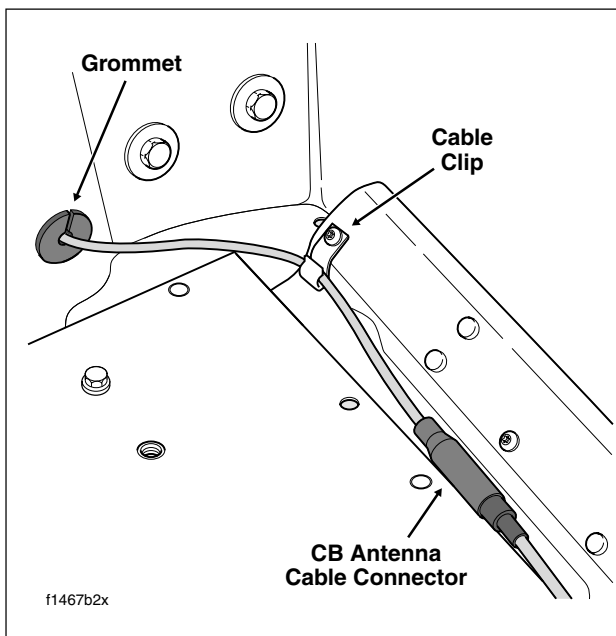

Figure 8-178. CB Antenna Cable Connector (Tour-Pak)
9. Separate pin and socket halves of CB antenna cable connector [50]. Release cable from clip at bottom of Tour-Pak. See Figure 8-178.
2. Pass CB antenna cable connector [50] through hole at front of Tour-Pak. Capture cable in grommet. Install grommet in hole with the larger OD facing inside. See Figure 8-178.